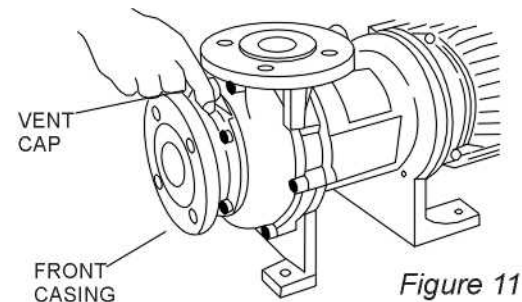

Figure 11
1. Remove the drain and vent caps (14) to discharge the liquid from the pump. Flush the inside of the pump with a neutralizing fluid. [Fig. 11]